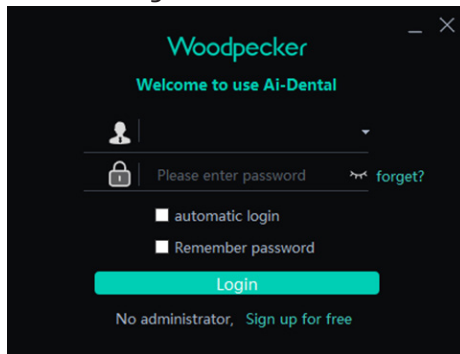

Figure 16
1. When using the software for the first time, you will not be provided with user name or password, as shown in Figure 16. Click "Free registration" to register the administrator.